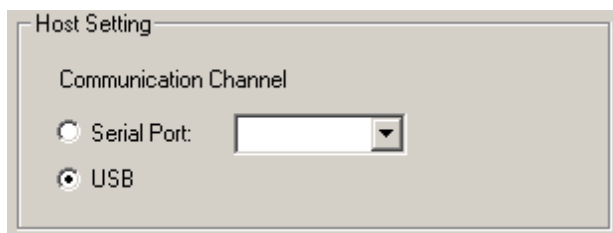

Figure 2-1 Selecting a USB Connection
3. Power on the board and select USB for communications (Figure 2-1).